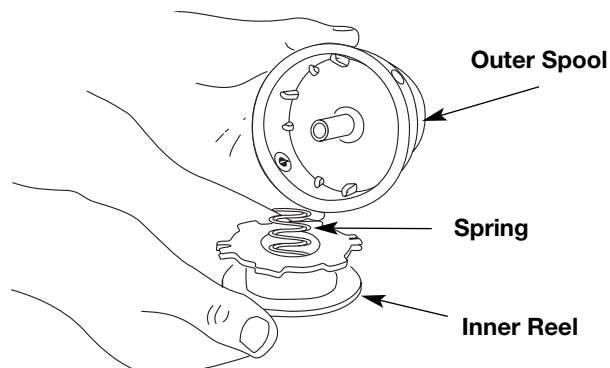

Fig. 13
2. Remove the inner reel from the outer spool (Fig. 13).
3. Remove spring from the inner reel (Fig. 13).
- Remove the old inner reel from the outer spool (Fig. 13).
- Remove the spring from the old inner reel (Fig. 13).